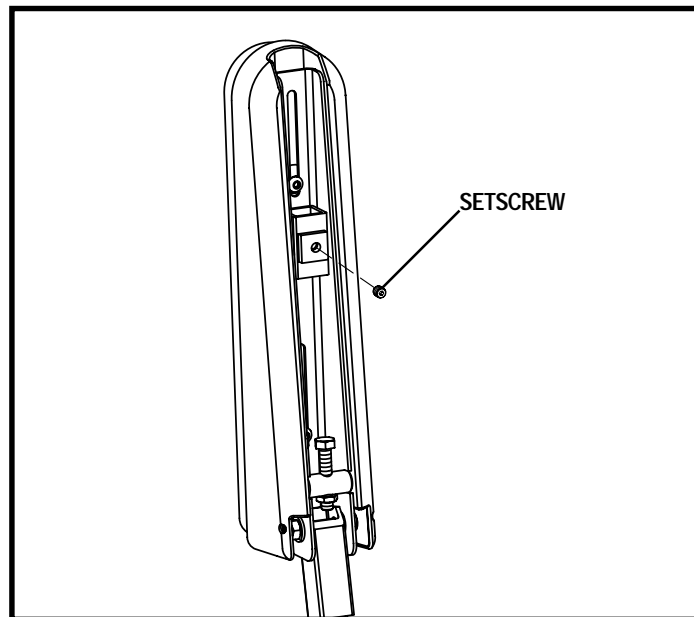

Figure 14. Underside of Armrest
5. Loosen the setscrew. See figure 14.